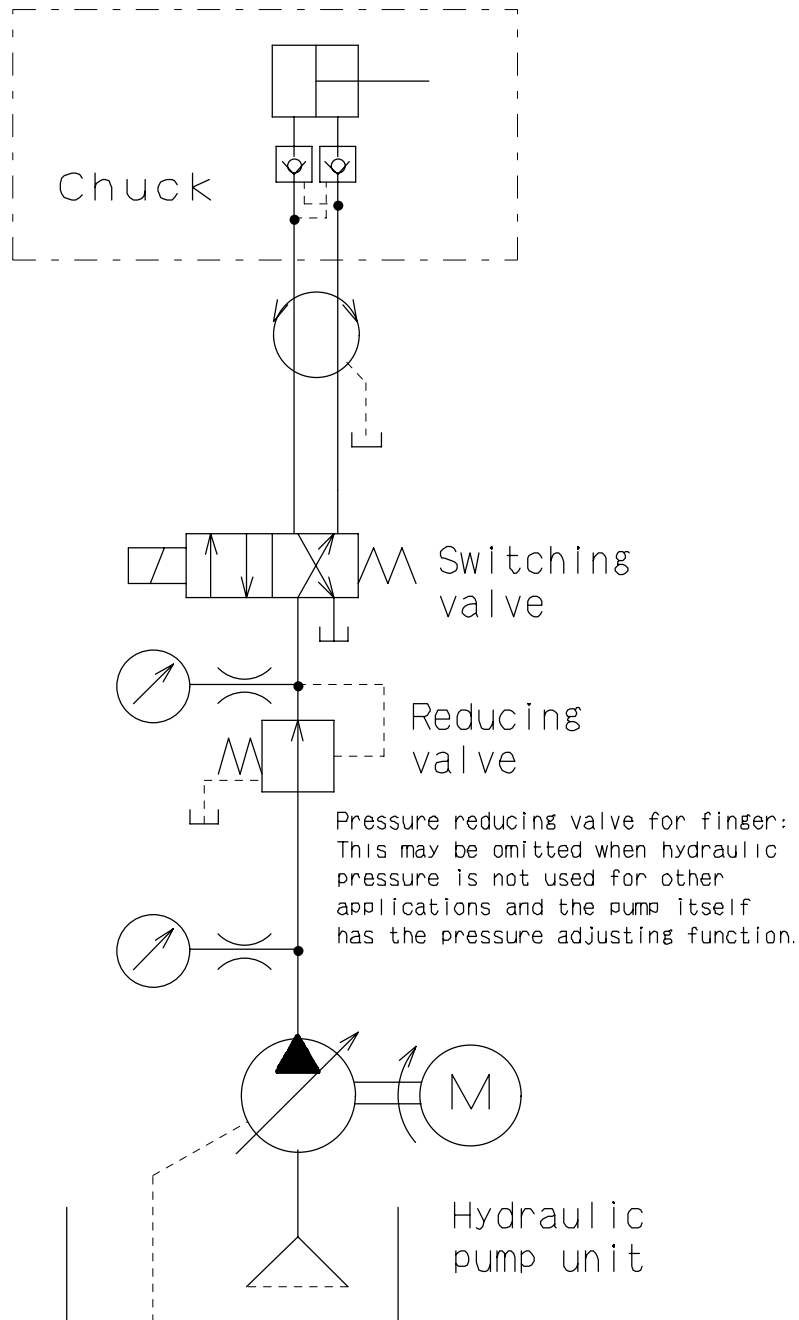

Fig.10
- Fig.10 shows an example of chuck open/close hydraulic circuit.